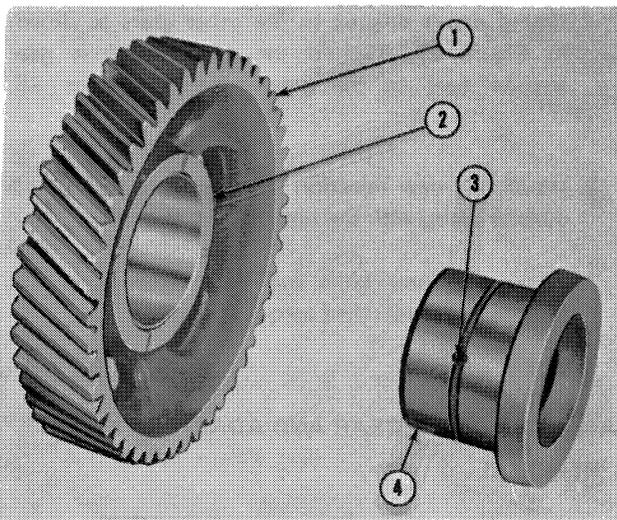

Figure 29
3. Check the adapter oil passage, Figure 29, to be sure that it is clear.
4. Inspect the camshaft drive gear bushing, Figure 29, for wear, nicks or burns, and install a new gear if any of these conditions exist.